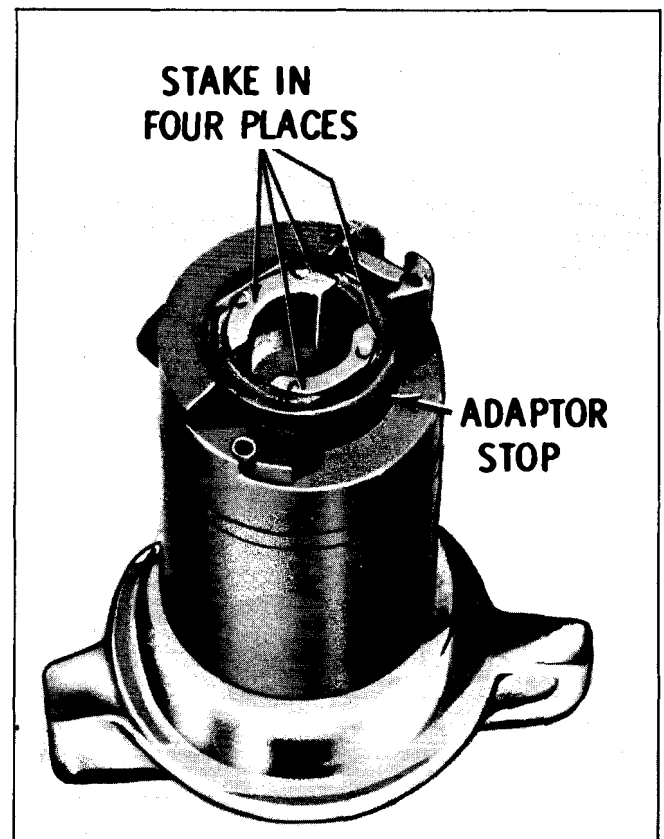

Fig. 0-19 Staking Adapter
5. Install stop adapter over tail of cylinder and rotate clockwise until adapter contacts stop pin located in sleeve. Stake as shown in Fig. 0-19.